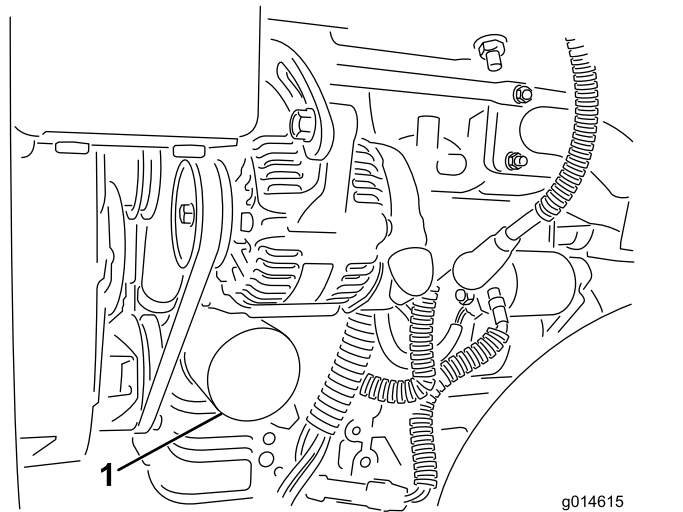

Figure 33
2. Remove the oil filter (Figure 33). Apply a light coat of clean oil to the new filter gasket.